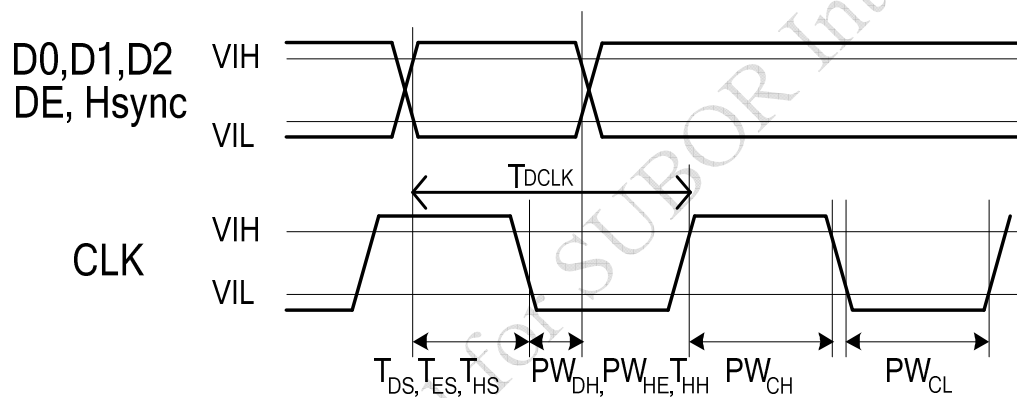

Fig1. Input timing detail
- At power-on, the default values specified for each parameter (in Figure 1) are taken.